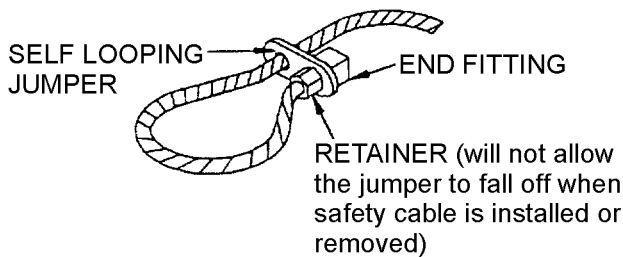

Figure 22. Self Looping Safety Cable
g. Installing Holes. Safety cable must be installed through the holes intended for this purpose in the part being secured, or through the holes provided in a self-looping device secured to the safety cable by the safety cable manufacturer (Figure 22). In applications where holes are not provided for safety cable in the component to which it is attached, the self looping safety cable may be used in a manner like, or similar, Figures 22 and 23.